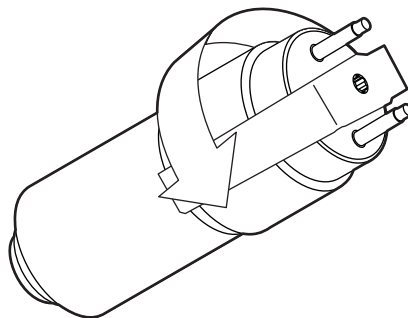

Figure 17 Rotation of the pump head
4. Rotate the entire pump head in a 180° arc (refer to Figure 17).